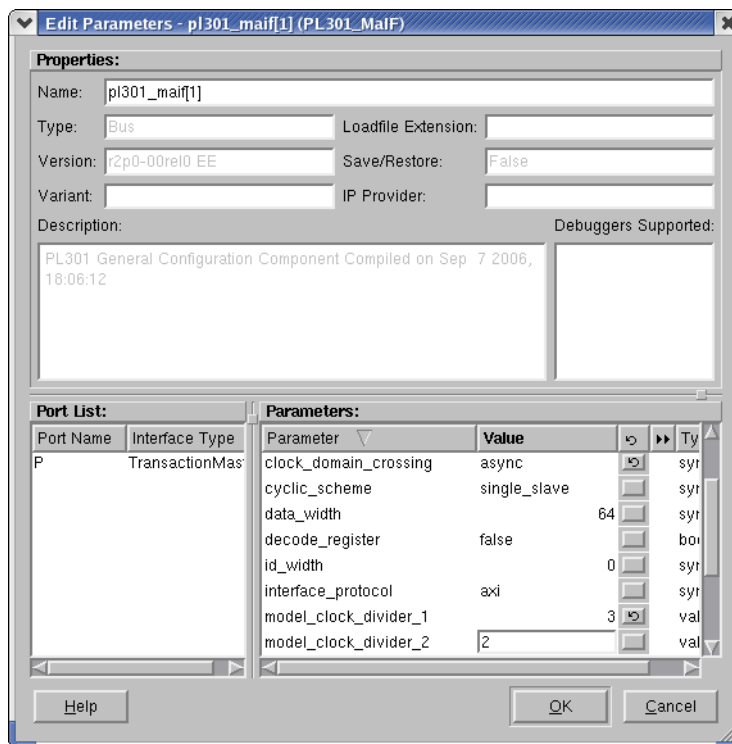

Figure 4-30 Clock domain crossing for master 1
4. Enter 2 in the `model_clock_divider_2` parameter field, as Figure 4-30 shows.